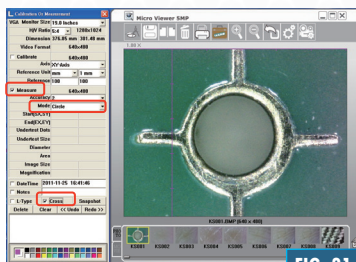

FIG. 31
2. Check the "Measure" box (Fig. 31).